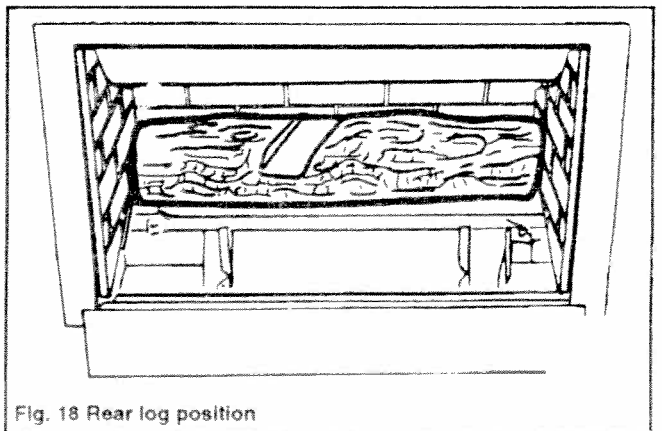

Fig. 18 Rear log position
15.3 Place the rear log (the log without a branch) in the retaining cradle behind the rear burner tube with its back against the back wall. Center the log so that the gap to the side wall is the same at each side (see figure 18).